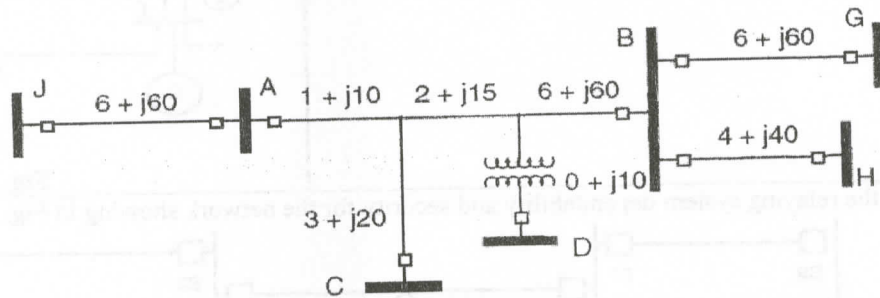

Fig. 6 →
- c) Consider the multi-terminal line in the system shown in Fig. 6. Each of the buses C, D, G, H and J has a source of power behind it. For a three-phase fault on bus B, the contributions from each of the sources are as follows: